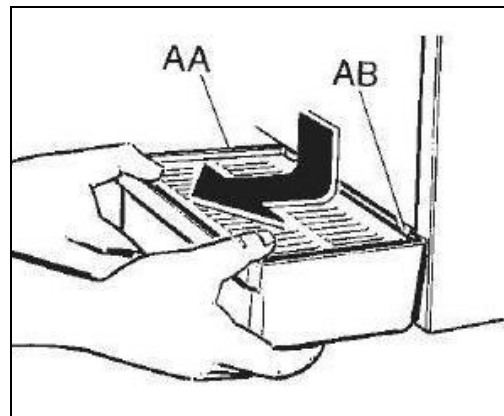

Fig. 12
- **R**emove the liquid-collector tray (AA) turning it slightly upwards and pulling it forward (see figure 12). Wash each part thoroughly, then reassemble the parts by inversely following the procedures described above.